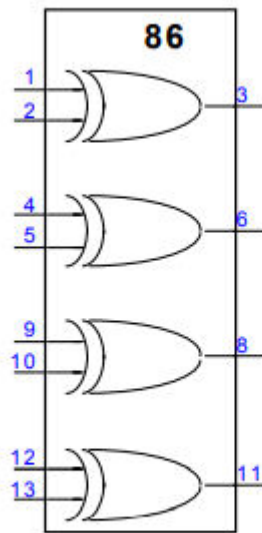

Figure. 1 XOR chip 74-86
- Then select the XOR chip 74-86. This would give you a set of 4 XOR's as shown in Fig. 1, just like the hardware chip 74-86. You could use as many as needed from these XOR gates in your design.